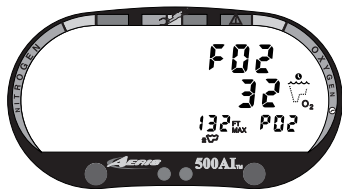

Fig. 51 - FO2 (Default OFF)
- If the FO2 Default was set OFF, the FO2 setting displayed will be the same value previously set (Fig. 51).